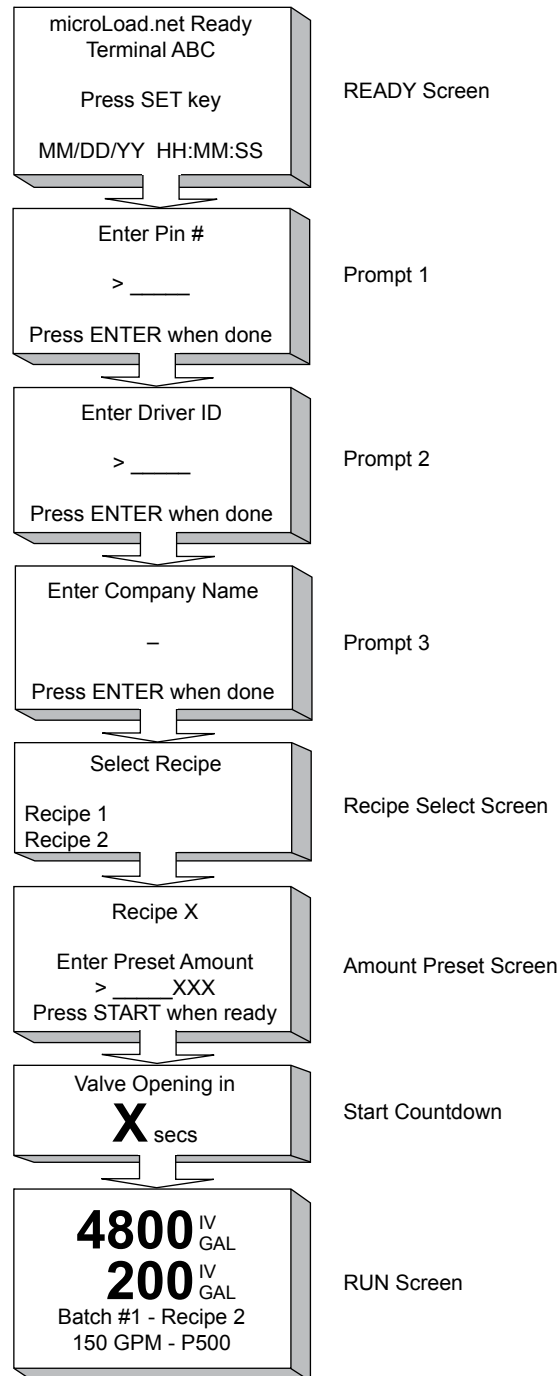

Figure 4. Typical Prompt Sequence
1. The Automated Proving Mode must be enabled via “Volume Accuracy, Auto Prove Select”, parameter 331. This parameter is used to enable or disable the Automated Proving Mode. The default for this program code will be disabled. Select one of the two (2) security options to enable the automated prove and associated security. Once selected and the security activated, the beginning of the next transaction will launch the auto prove.
3. The programmed security must be met. When normal conditions are met for starting a transaction (pressing the “SET” key or receiving authorization via communications), the Automated Proving Mode will be activated. After the microLoad.net has gone through the user programmed prompts (see Figure 4) the will display the question “Are You Proving?”. If the user indicates NO, the balance of the preset sequence will continue as if a normal load. If the user answers YES, the automated proving sequence continues.